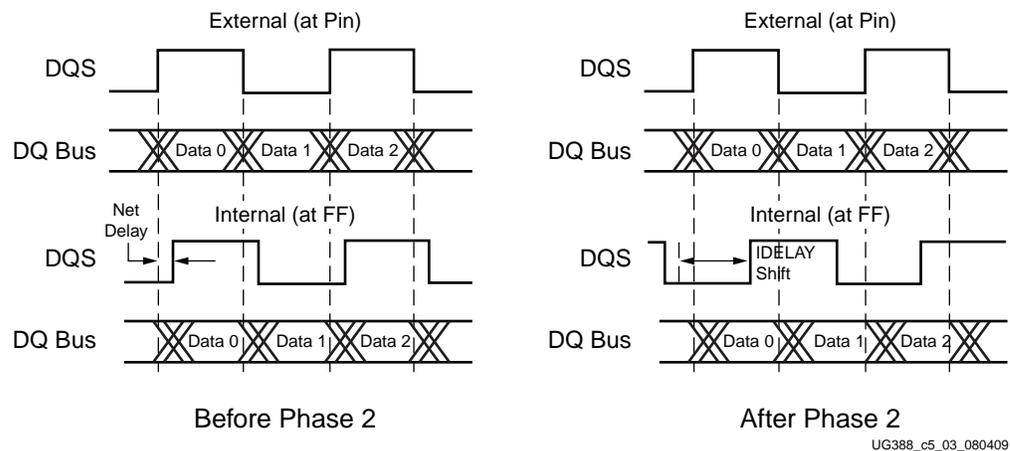

Figure 4-3: Phase 2 of Calibration - DQS Centering
The DDR memory device output pins transmit the Read Data (DQ) and DQS strobes edge-aligned to the FPGA input pins as shown in Figure 4-3. For reliable operation, the DQS strobe must be delayed with respect to the DQ bits so that it captures the Read Data away from the transition region of the data bus.
During this phase, the tap delay count of the IDELAY block in the DQS strobe input path is incremented to shift the internal DQS signal at the capture flip-flop into the center of what will become the Read Data capture window as shown in Figure 4-3.